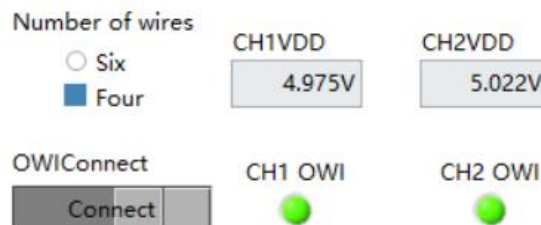

Figure 5.3.8 OWI connection
- Click the "Four" option under "Number of wires" and select the chip connection form (described in the programmer hardware connection diagram in Chapter 3). Click the "Connect" button to establish a communication connection between the programmer and the chip. When connected normally, the programmer connection indicator light will turn green (Figure 5.3.8).